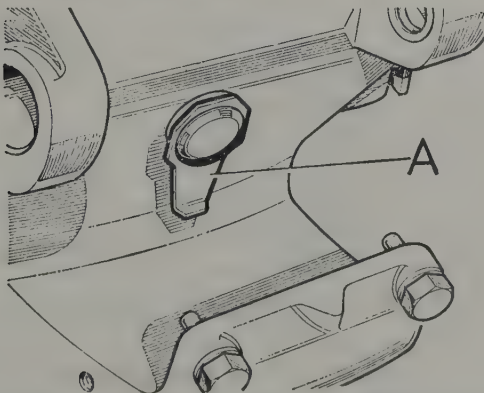

Fig. 9.21. Position of piston lever (A) in rear caliper after reassembly
- 24 Screw the piston fully in and turn the lever to the position indicated in Fig. 9.21.